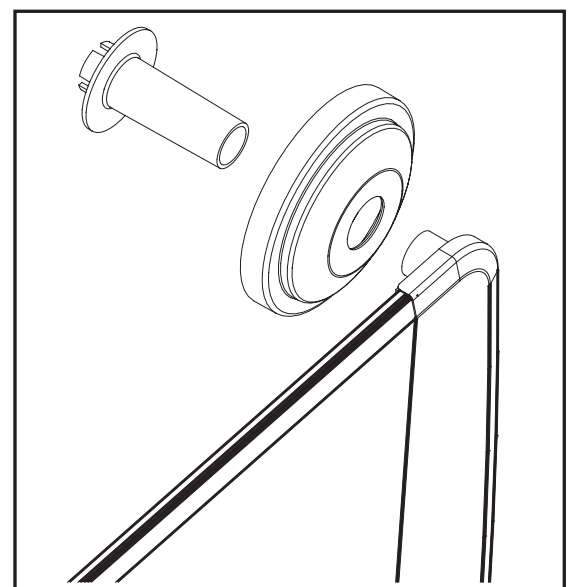

Figure 4
- C. Using (Fig 4) as your guide, slide the Mounting Posts through the hole in the Mounting Bracket Covers. Then take each Mounting Post and hand-tighten each onto the threaded Towel Warmer tube. Be sure to screw the Mounting Posts entirely onto the threaded Towel Warmer tube. **DO NOT force or cross-thread the Mounting Post onto the Towel Warmer tube.**